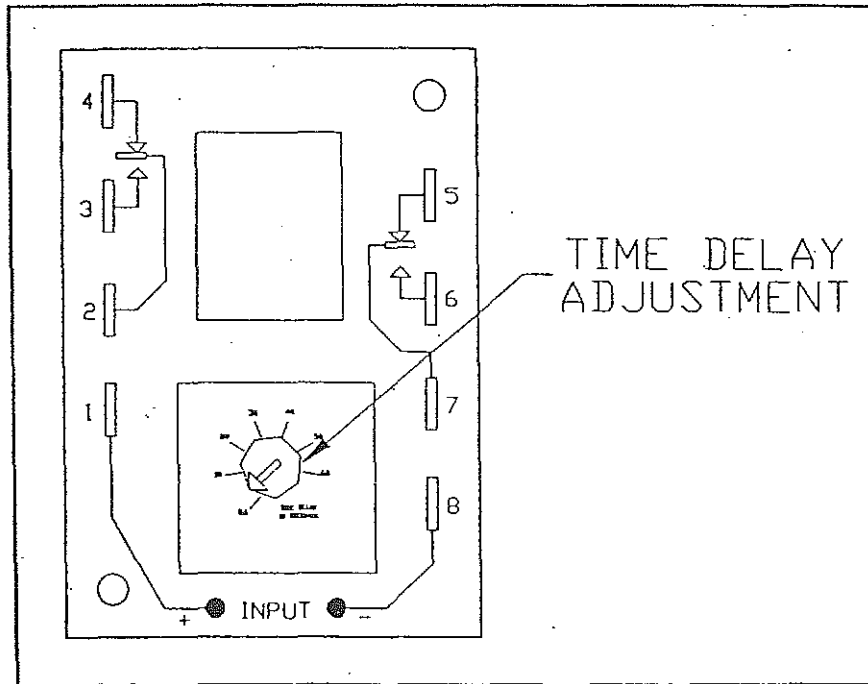

FIGURE 9-1 TIME DELAY RELAY
2. Turn the oil pressure time delay to zero (see Figure 9-1).